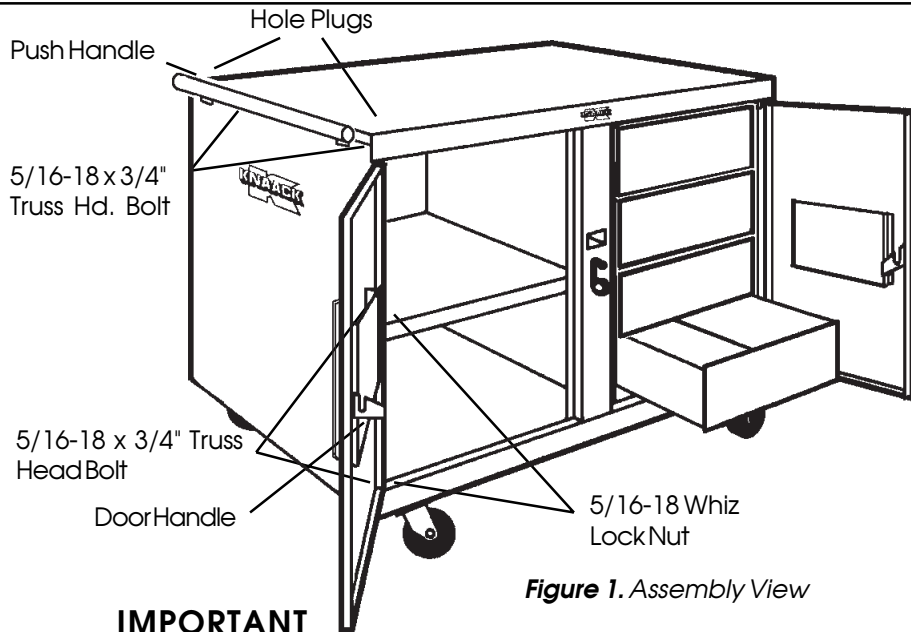

Figure 1. Assembly View
1. Remove the caster box, handles, and bolt kit from the cabinet. Attach the Door Handles (*Figure 1*). Insert Hole Plugs in the Push Handle and attach to the end.